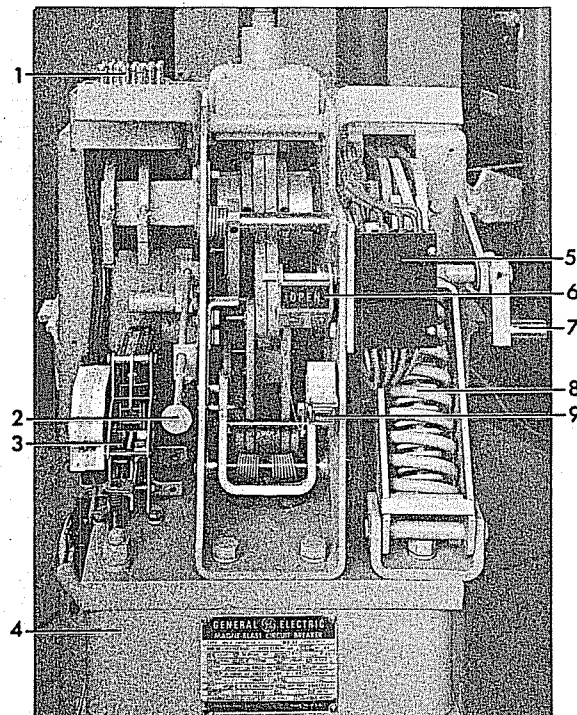
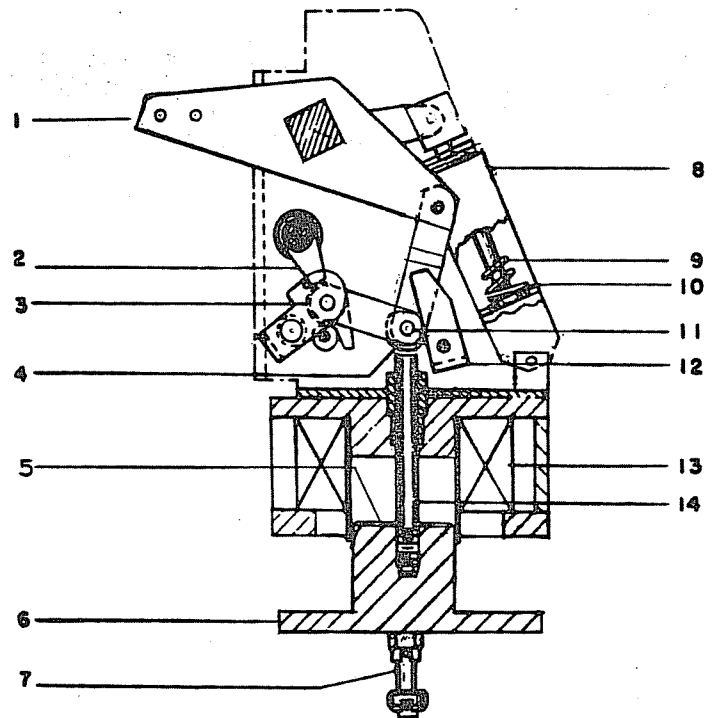

Figure 2 (8024599) MS-13 Operating Mechanism
Figure 4 (0137A7682) Cross Section of MS-13 Operating Mechanism in the Open Position
The operating mechanism can be either a type MS-13 solenoid mechanism or a type ML-11 stored energy mechanism. Both mechanisms are designed to give high speed closing and opening. All secondary connections from the breaker to the metal-clad unit are made through the coupler, (1) Figure 2.
The closing solenoid of the type MS-13 mechanism operates on d-c voltage only as indicated on the breaker nameplate. For a-c voltage closing, rectifiers mounted in the metal-clad unit are used to supply the direct current on which the closing coil operates. Closing operations are controlled electrically from the metal-clad unit and remote location. The trip solenoid will operate on a-c or d-c voltage as indicated on the breaker nameplate. Opening operations are controlled either electrically from the metal clad unit and remote location, or mechanically by the manual trip lever (2) Figure 2 on the breaker.
A positive interlock (7) Figure 2 and interlock switch (7) Figure 10, are provided between the breaker and metal-clad unit to prevent raising or lowering of the breaker in the unit while in a closed position and to prevent a closing operation when the breaker is not in either the fully raised or lowered position.
As the main contacts of the control device close, the breaker closing coil is energized. This raises the armature (6) Figure 4 which in turn lifts the closing roller (4) through plunger (14). This motion is transmitted through the mechanism linkage, and rotates the main crank (1), closing the breaker contacts. As the armature reaches the end of its travel, the prop (12) rotates beneath the pin (11) latching the breaker in the closed position. Through out the closing operation the mechanism is trip-free at all times.
The breaker can be opened either electrically by energizing the trip coil (1) Figure 25 or manually by pushing the trip lever (2) Figure 2. In each method the trip latch (2) Figure 4 is rotated off the trip latch roller (3) permitting the operating mechanism linkage to collapse. The energy stored in the opening springs is released to provide the required opening speed for successful interruption of the circuit. During this operation the trip coil circuit is de-energized, and upon completion of the opening operation, the operating mechanism is returned to its normal position, ready for closing.
If the trip coil circuit is energized while the breaker is closing, the trip armature will force the trip latch (2) Figure 4 away from the trip roller (3) causing the mechanism linkage to collapse and the breaker to re-open. The closing armature (6) completes its closing stroke, the closing coil is de-energized at the end of the stroke and the armature is returned to its original position by gravity.
Refer to Figure 7, when the breaker is closed the stationary primary contacts (1) should rise from $1/4"$ to $5/16"$. Before checking this dimension be sure the mechanism is re-set so that the prop pin (11) Figure 4 is resting on the prop. To obtain the proper contact adjustment, open the breaker and, referring to Figure 8, loosen the check nut (4) and turn the adjusting nut (3). Screwing up on the adjusting nut will decrease the primary contact wipe, down will increase it. Tighten the check nut, close the breaker and recheck the wipe. With the primary contact wipe correctly adjusted, the clearance between the contact arm (6) Figure 7 and the buffer block (3) should be $1/16"$ or greater when the breaker is fully closed.